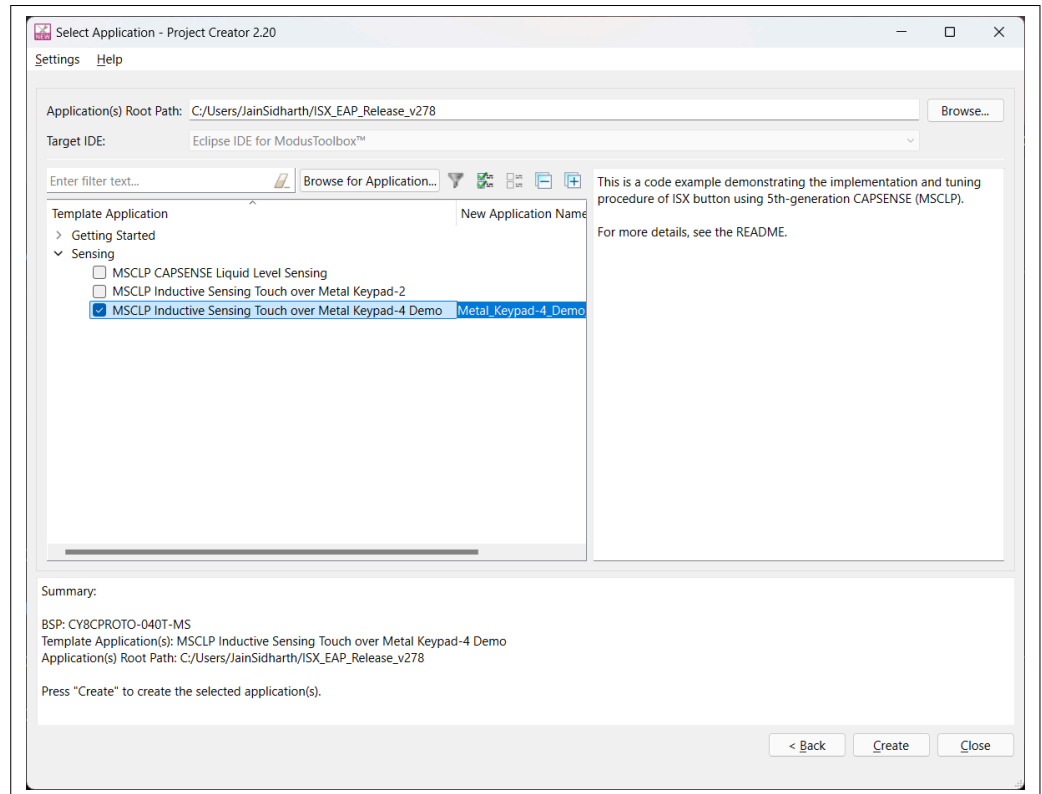

Figure 15 Creating a new application: Select Application
- d. Select the required application and click **Create**, as shown in Figure 15. The right pane will display the code example description and provide a link to view the README file on GitHub